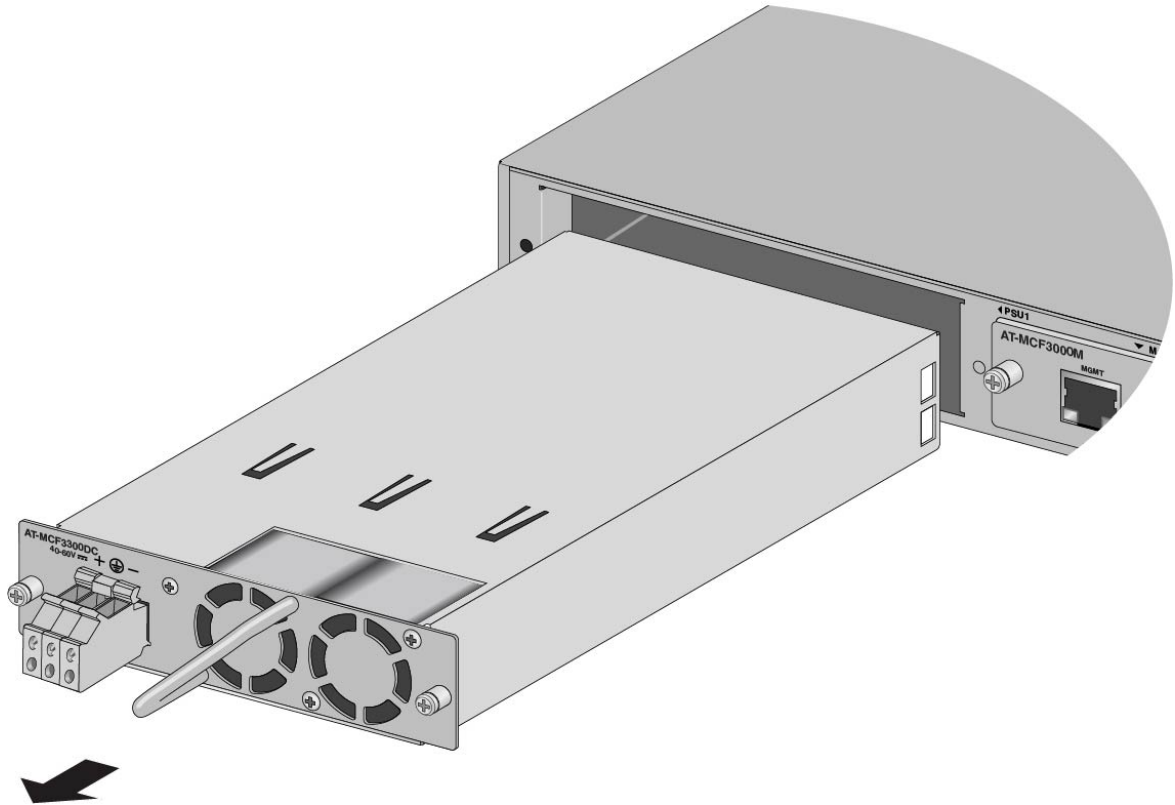

Figure 80. Sliding the MCF3300DC Power Supply from the Chassis
7. Slide the power supply out from the chassis. Refer to Figure 80 on page 117.